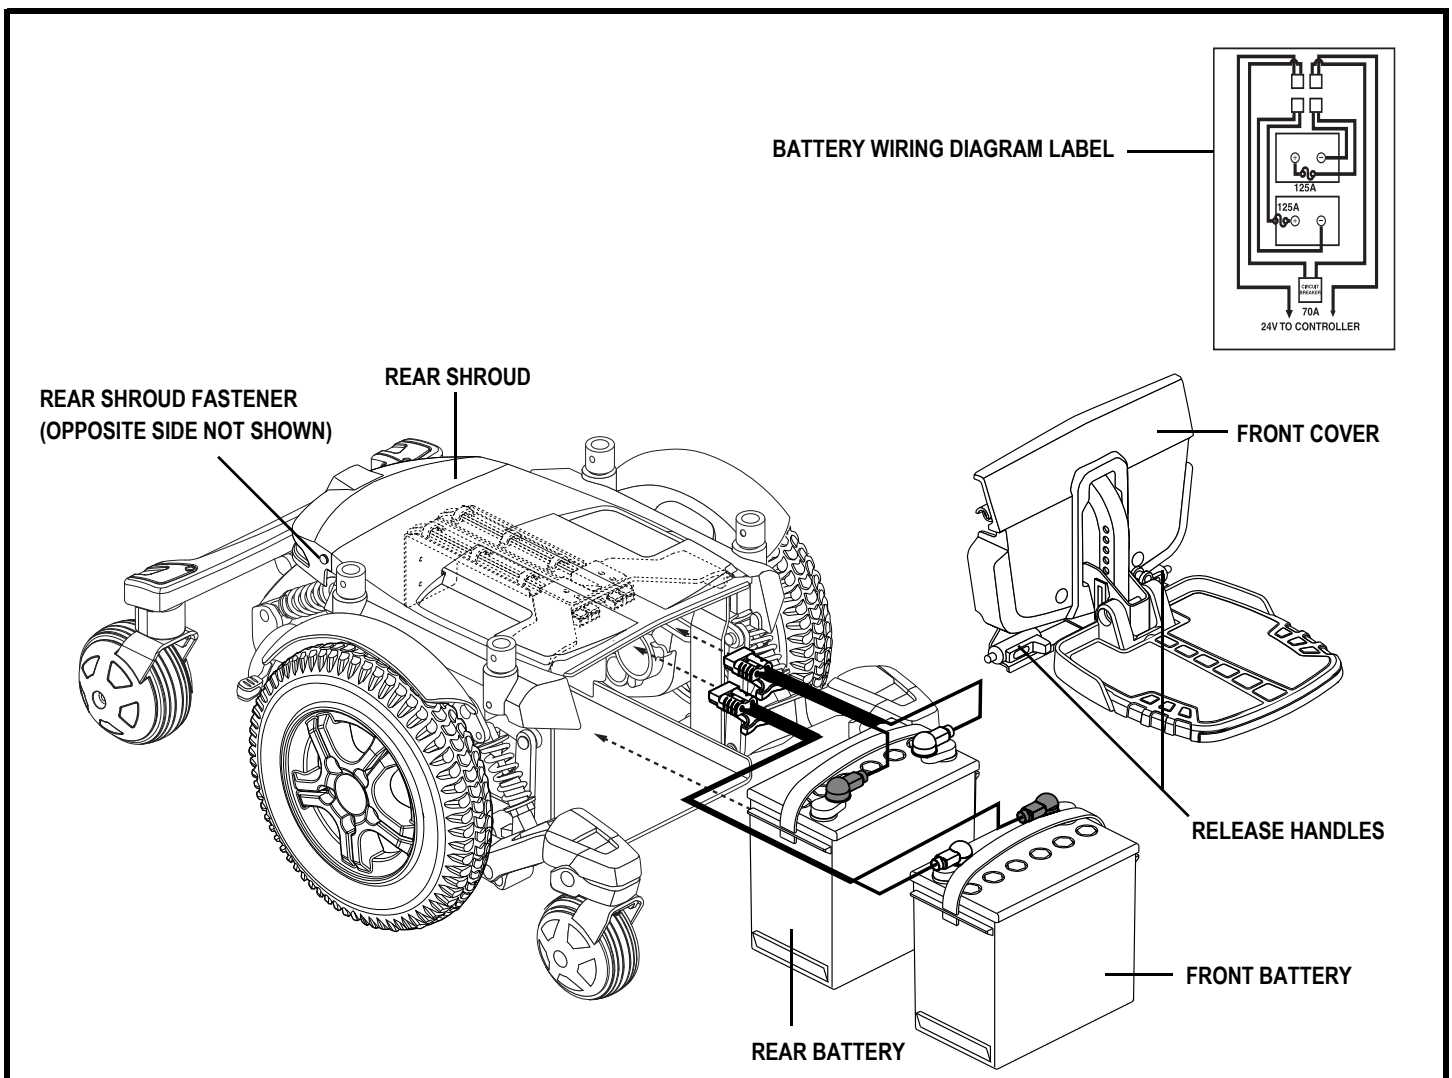

Figure 27. Battery Installation
3. Remove the foot platform by squeezing the release handles (see figure 27) and lifting the foot platform bracket up and away from the power base.
7. Connect the battery harness to the new front battery according to the battery wiring diagram. See figure 27.
8. Connect the battery harness to the new rear battery according to the battery wiring diagram. See figure 27.